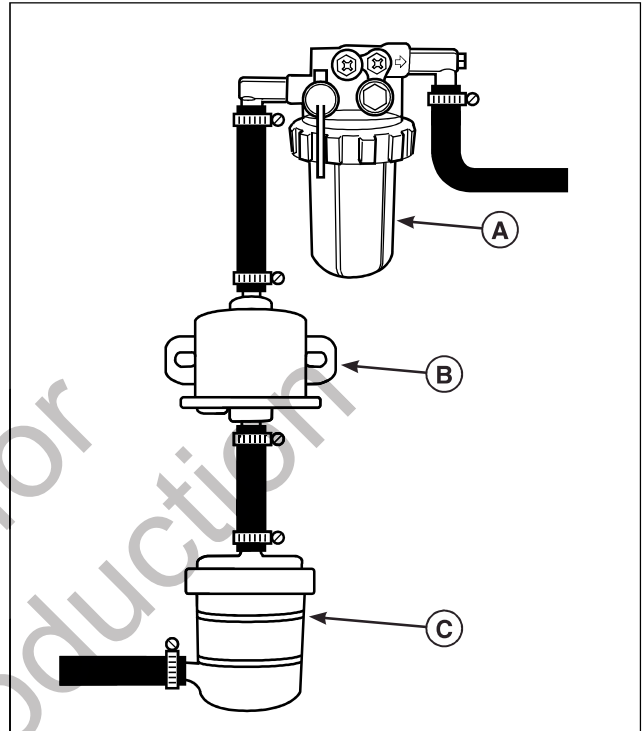

Figure 14. Replacing the Fuel Filter
This unit is equipped with two fuel filters. One is a water separator (A, Figure 14) and the other is a fuel filter (C). Both filters are located in the engine compartment on the right side of the engine. The water separator should be drained every 25 hours or whenever water is visible in the bowl. Replace both fuel filters every 500 hours of operation or as required.